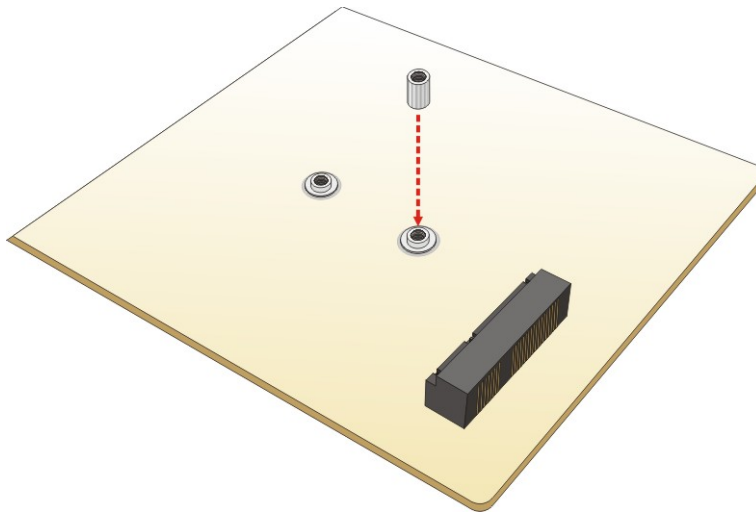

Figure 4-9: Installing the Standoff
Step 3: Install the previously removed standoff to the screw hole for the half-size PCIe Mini card (**Figure 4-9**).